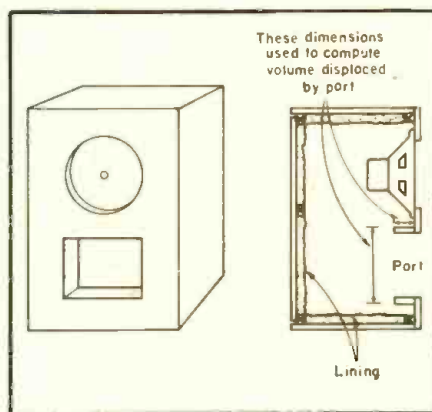

Fig. 4. Reflexed cabinet appearance, showing measurements to compute port displacement.
follows: the long side of the port may be made approximately equal to the diameter of the speaker cutout; this is economical in space and balances the appearance. The diameter of the speaker opening (and one side of the port rectangle) is  $10\frac{1}{2}$  in. The other side of the port opening is then  $85/10\frac{1}{2} = 8.1$  in., or approximately  $8\frac{1}{8}$  in. (Great accuracy is not necessary, since the resonant frequency varies as the square root of the volumes, areas, etc., [See Eq. (1)]. Allowing 3 in. edge clearance and 2 in. between the speaker and port, the inside dimensions of the front will be  $(3 + 8\frac{1}{8} + 2 + 12 + 3) = 28\frac{1}{8}$  in. long by  $(3 + 12 + 3) = 18$  in. wide (speaker diameter is 12 in.). The frontal area is (18)  $(28\frac{1}{8}) = 506$  sq. in. and the depth, then, must be  $8555/506 = 16.9$  in. inside. Allowing  $1\frac{1}{2}$  in. for the wall thickness including lining, the outside dimensions become  $31\frac{1}{8} \times 21 \times 19.9$  inches. Suppose, now, that the front dimensions are satisfactory but the depth is too great. The port length  $L$  may be arbitrarily increased, say to 4 in. The volume, Eq. (2), now becomes 6639 cu. in. net; adding 200 cu. in. for the speaker and 289 cu. in. for that portion of the port tube projecting into the enclosure, measured as shown in Fig. 4, the gross internal volume equals 7128 cu. in. The inside depth, then, is  $7128/506 = 14.1$  in. or 17.1 in. outside.